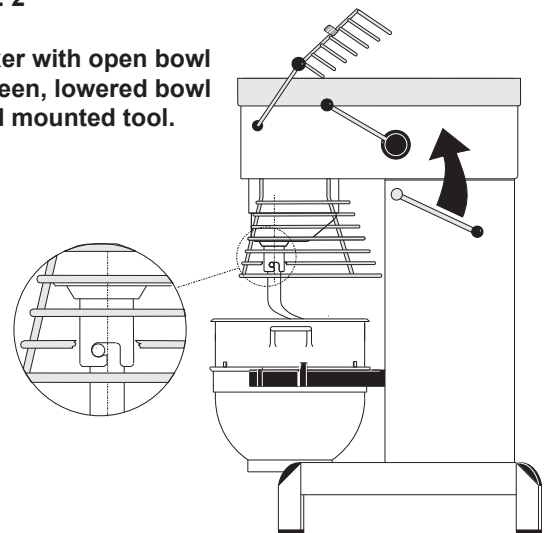

Fig. 3
- B) Note: the bowl arms must be in the lowest position. Place the bowl in the bowl arms. Check that the bowl is pushed right back into the arms and that the "Third ear" of the bowl is facing the mixer (fig. 3). Place the mixer tool in the bayonet shaft. The tap of the tool must be turned right into the bayonet hole. Close the bowl screen.